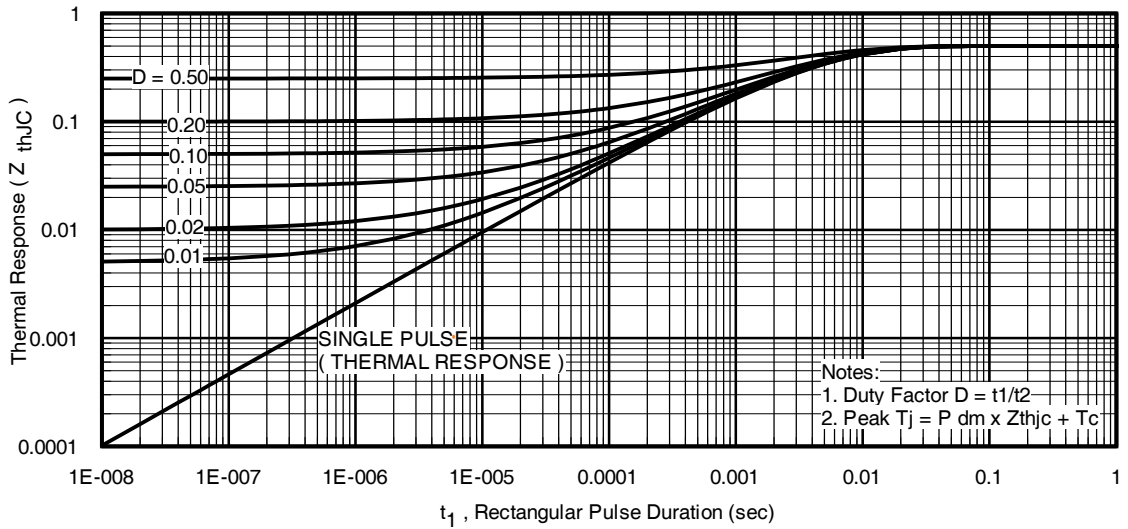

Fig 11. Maximum Effective Transient Thermal Impedance, Junction-to-Case
- ① Calculated continuous current based on maximum allowable junction temperature. Bond wire current limit is 195A. Note that current limitations arising from heating of the device leads may occur with some lead mounting arrangements. (Refer to AN-1140)
- ② Repetitive rating; pulse width limited by max. junction temperature. (See fig. 11)
- ③ Limited by T_{Jmax}, starting T_J = 25°C, L = 0.24mH, R_G = 25Ω, I_{AS} = 75A, V_{GS} = 10V. Part not recommended for use above this value.
- ④ Pulse width ≤ 1.0ms; duty cycle ≤ 2%.
- ⑤ C_{oss eff.} is a fixed capacitance that gives the same charging time as C_{oss} while V_{DS} is rising from 0 to 80% V_{DSS}.
- ⑥ This value determined from sample failure population, starting T_J = 25°C, L = 0.24mH, R_G = 25Ω, I_{AS} = 75A, V_{GS} = 10V.
- ⑦ This is applied to D²Pak When mounted on 1" square PCB (FR-4 or G-10 Material). For recommended footprint and soldering techniques refer to application note #AN-994
- ⑧ Max R_{DS(on)} for D²Pak and TO-262 (SMD) devices.
- ⑨ TO-220 device will have an R_{th} value of 0.45°C/W.
- ⑩ All AC and DC test condition based on old Package limitation current = 75A.